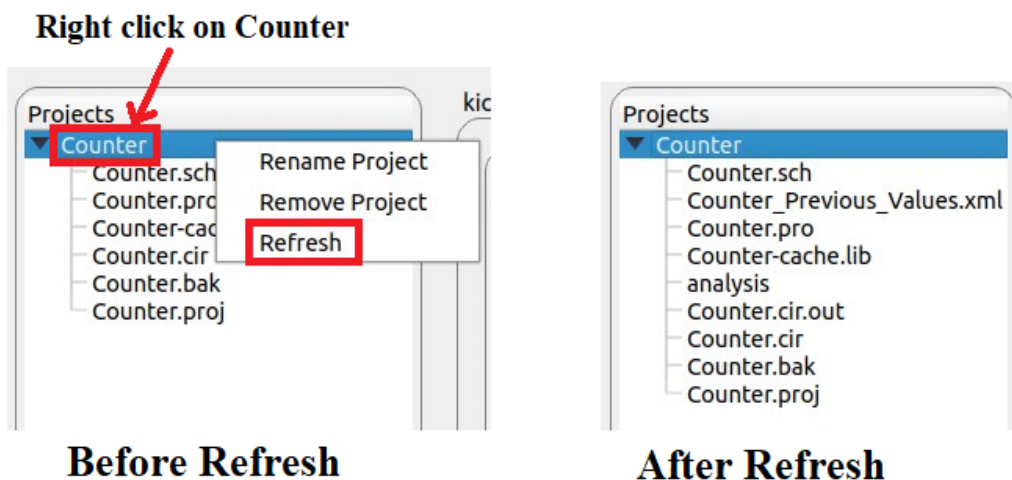

Figure 10.36: Cir.out file added after conversion
- Next, right click on **Counter** and click on **Refresh** as shown in Fig. 10.36. It can be seen that Project\_Name.cir.out file (Note: In this example, project name is Counter, so the file name is Counter.cir.out) is added after pressing refresh. Repeat this step for every rerun of KiCad to Ngspice conversion.
- Close the simulations plots, and right click on **Counter** button and click on **Refresh** button as shown in Fig. 10.36 to update the plot data files in the Projects folder.